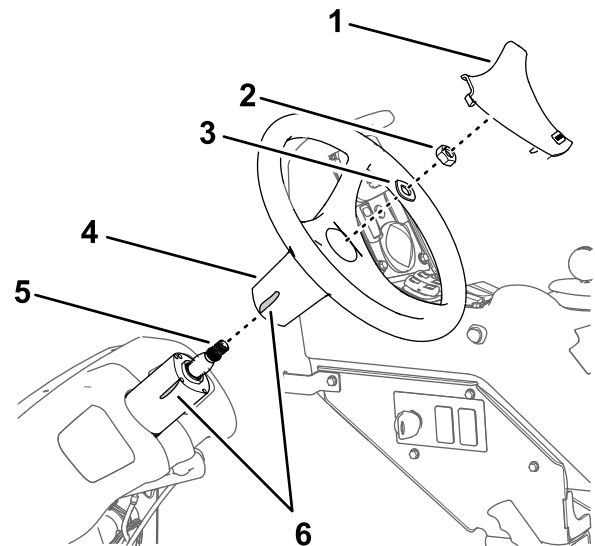

Figure 159
1. Mark the position of the steering wheel to the steering valve with a piece of tape (Figure 159).
2. Remove the cover from the steering wheel (Figure 159).
3. Remove the nut (5/8 inch) and washer (5/8 inch) that secure the steering wheel to the steering valve, and remove the steering wheel (Figure 159).